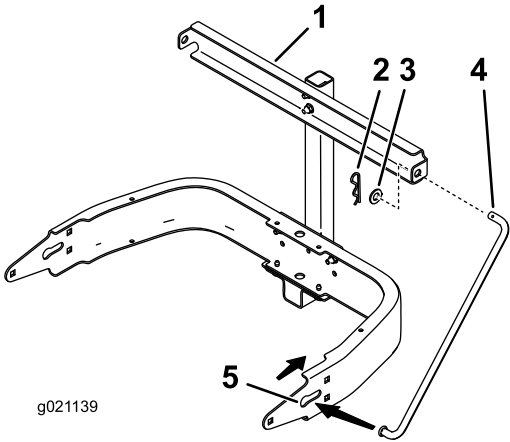

Figure 2
5. Slide the end of the support rod, without the hole, into the key slot in the frame (Figure 2).
6. Install the other end of the support rod through the support bracket and secure with a flat washer and a hairpin cotter pin (Figure 2).